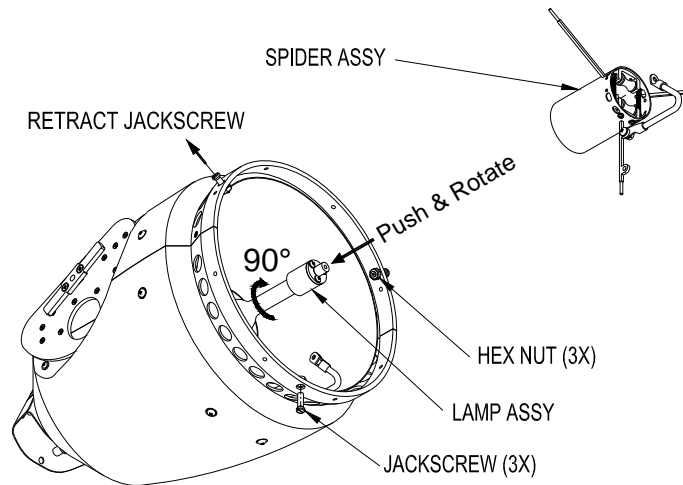

Figure 36 Spider Assembly Removal
- Loosen the hex nuts on the three jack screws that attach the outer ends of the spider legs to the Searchlight housing. Do not remove the screws completely because this will make re-assembly more difficult (Figure 36).